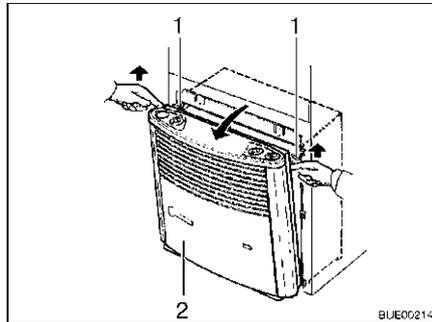

Fig. 125 Removing heater cover
- Remove heater cover (Fig. 125,2). Pull the heater cover upwards and forwards, press up the retaining springs (Fig. 125,1) to the side and tip the cover forwards.